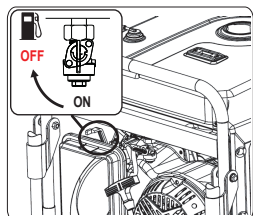

Fig 15
2. Turn the fuel valve lever back to the OFF position. (See fig 15)